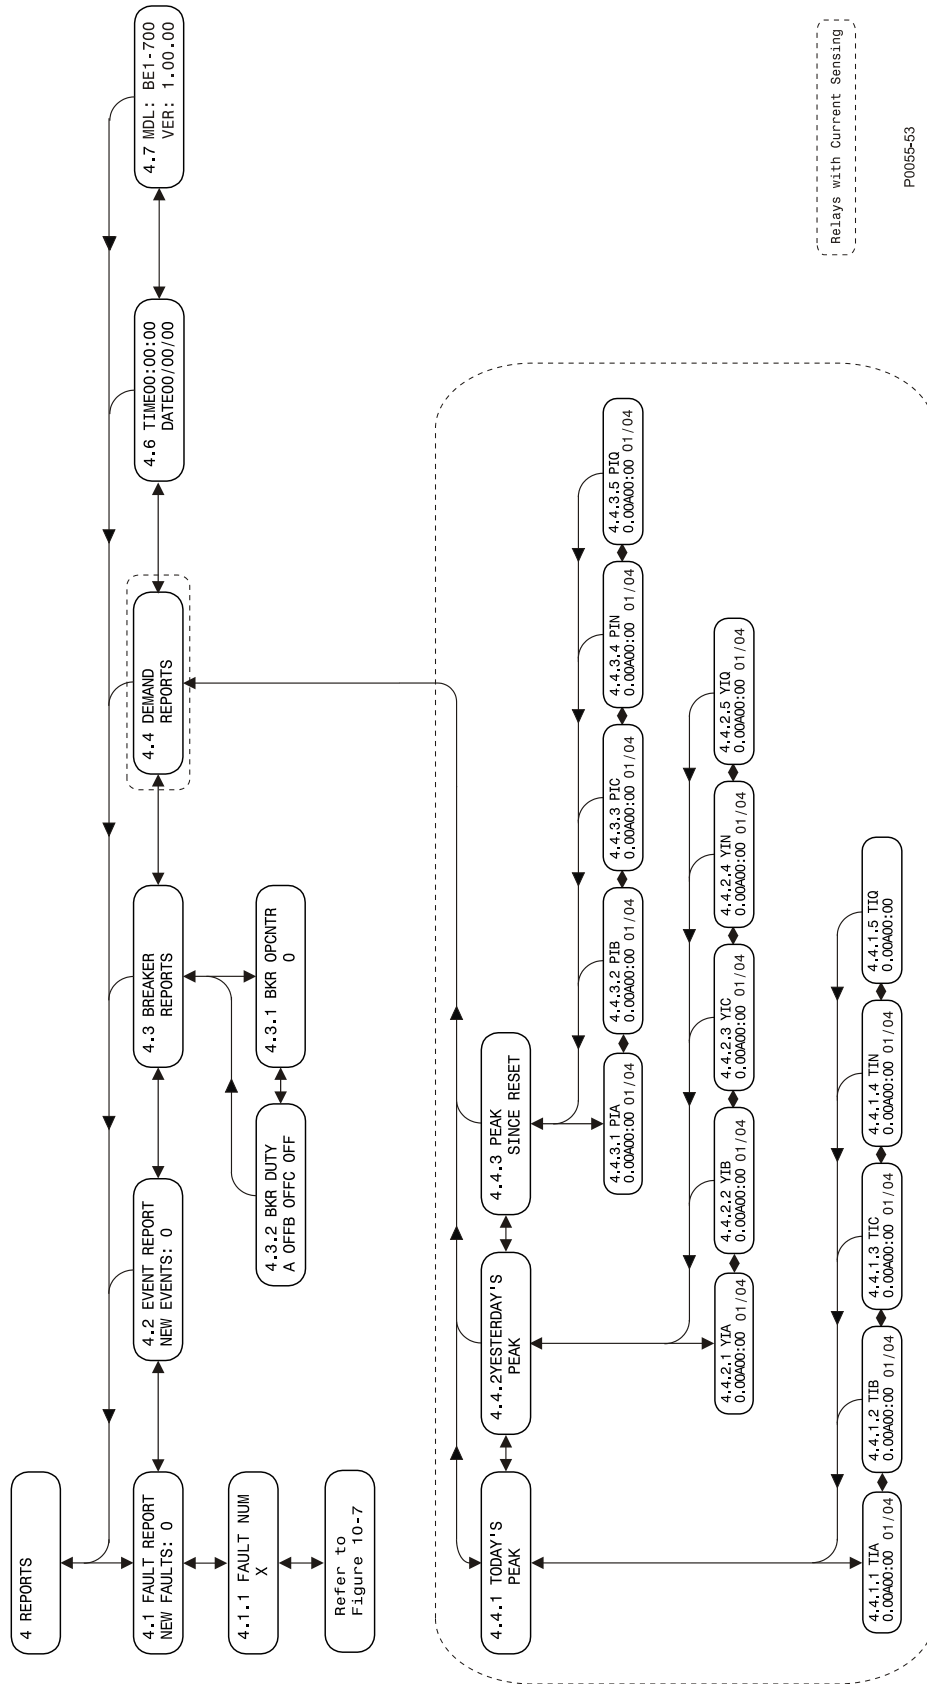
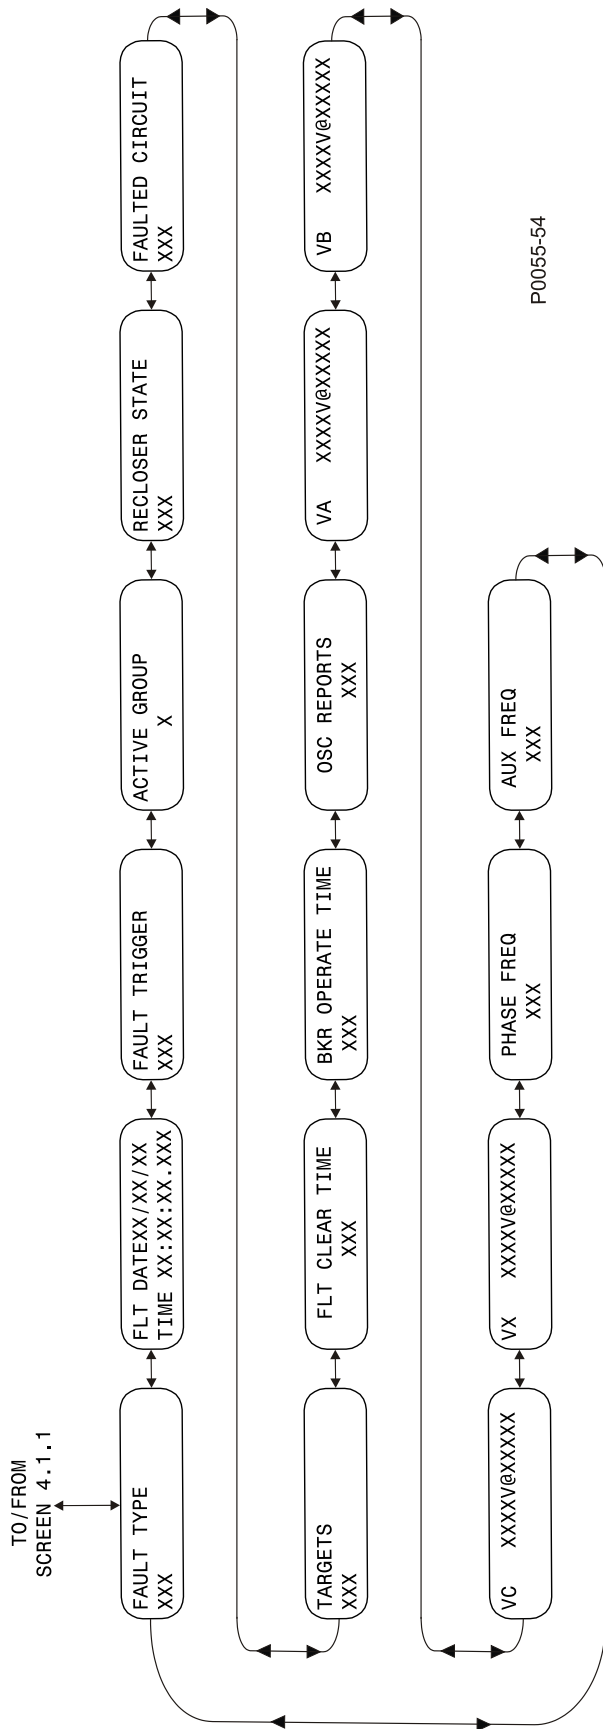

Figure 10-6. Reports Menu Branch Structure
Figure 10-7. Reports Menu Branch Structure - Continued (BE1-700V Shown)
4. REPORTS – Provides display and resetting of report information such as time and date, demand registers, and breaker duty statistics. Reports menu branch structure is illustrated in Figure 10-6 and Figure 10-7.